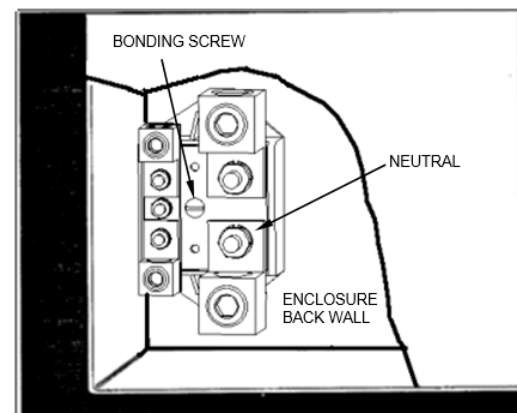

Figure 2 – Typical Installation of TNI65C Neutral Kit
Step 2: Mount neutral block to enclosure as shown in Figure 2. Torque fasteners to 20-24 in-lbs.
Step 4: Install bonding screw as shown in Figure 2 (If required). Torque fasteners to 20-24 in-lbs. Note: The tapped hole in type 3R enclosures is covered with a plastic disc. It is not necessary to remove the disc. The bonding screw will penetrate the disc.